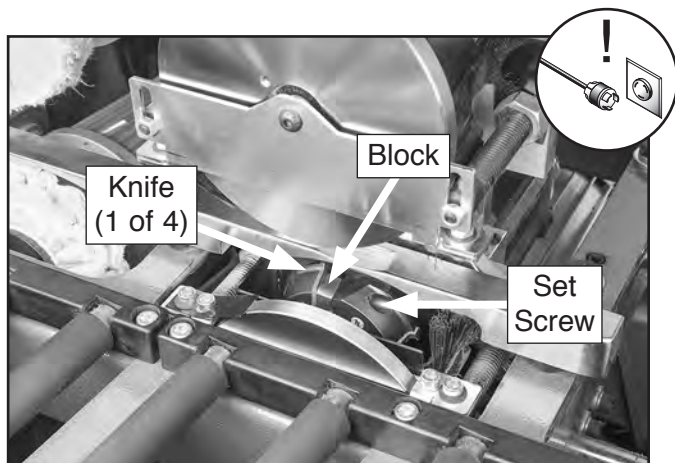

Figure 85. Lower flush trimmer knife components.
The disposable upper and lower flush trimmer knives are held in place by blocks and set screws (see **Figures 85–86**).
3. Rotate upper or lower cutterhead until knife, lock, and set screw are accessible, as shown in **Figures 85–86**.